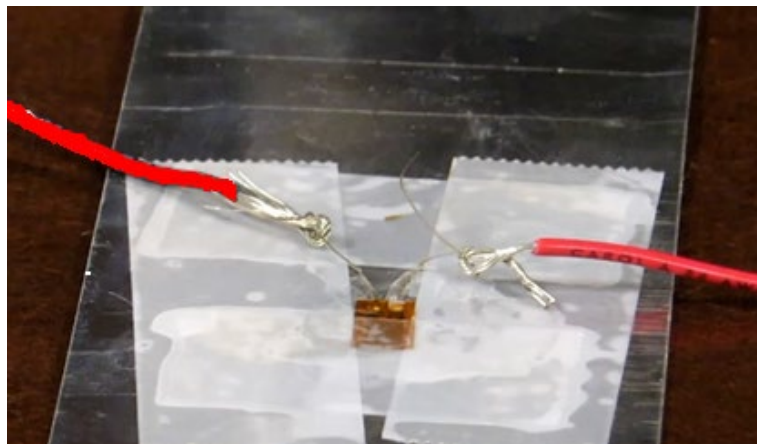

Figure 3. Make loops on the bare ends of the red wire and tie them to the lead wires of gage. Note that both connecting wires should be of same color.
- (m) Cut two red thin (28 awg) electric wires about 18" long and strip about 1" from all ends. Make a small loop on one bare end and tie it to one of the lead wires of the strain gage to form a joint. Repeat to connect the other red wire to the second lead wire of the gage (Fig. 3).